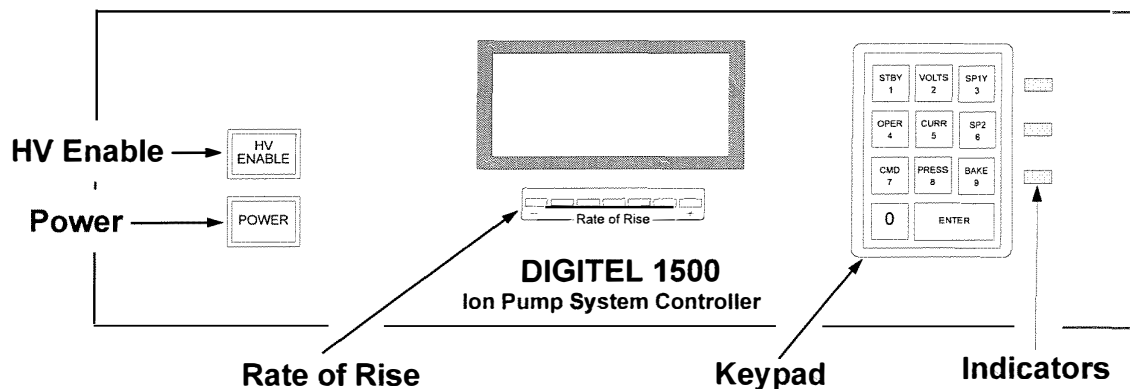

Figure 3-2. Front Panel Controls and Indicators
- Table 3-2 describes the front panel controls. These components are identified in Figure 3-2.